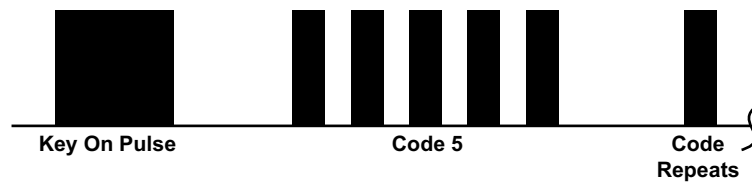

Figure 4-16 Acura transmission Code Type 02
- Type 02, see Figure 4-16 and Table 4-6